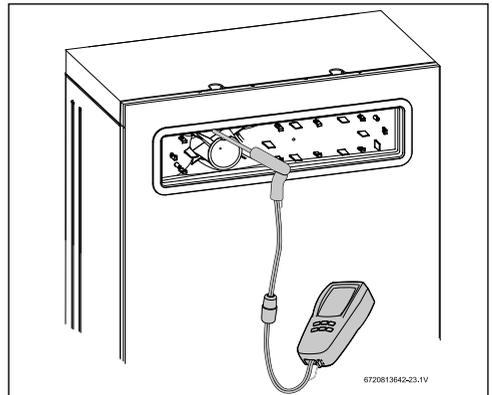

Fig. 47 Measuring port
- ▶ Insert analyzer probe into the measuring port (approx. 1.5" inserted), see fig. 47.